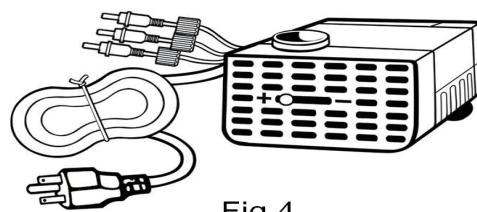

Fig.4
5. If the pump runs with low or high water circulation Check and adjust the regulator dial or slide on the front of the pump. Adjust the dial/slide towards (+) to increase water flow or towards (-) to decrease water flow. (Fig. 4)